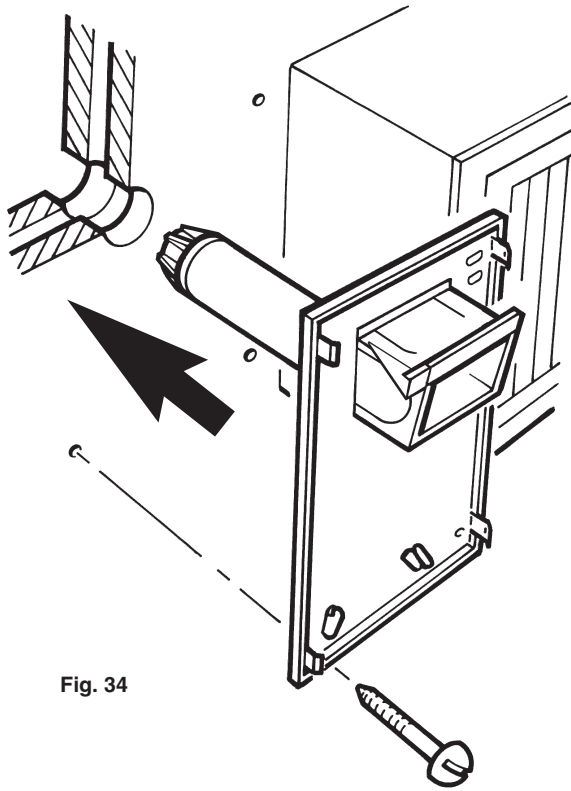

Fig. 34
1. Engage the assembly into the hole previously cut in the wall and slide in place (Fig. 34).
2. Secure the assembly to the wall at the previously drilled anchorage points with suitable screws (Fig. 34). Before finally tightening the screws, check that the assembly is level.